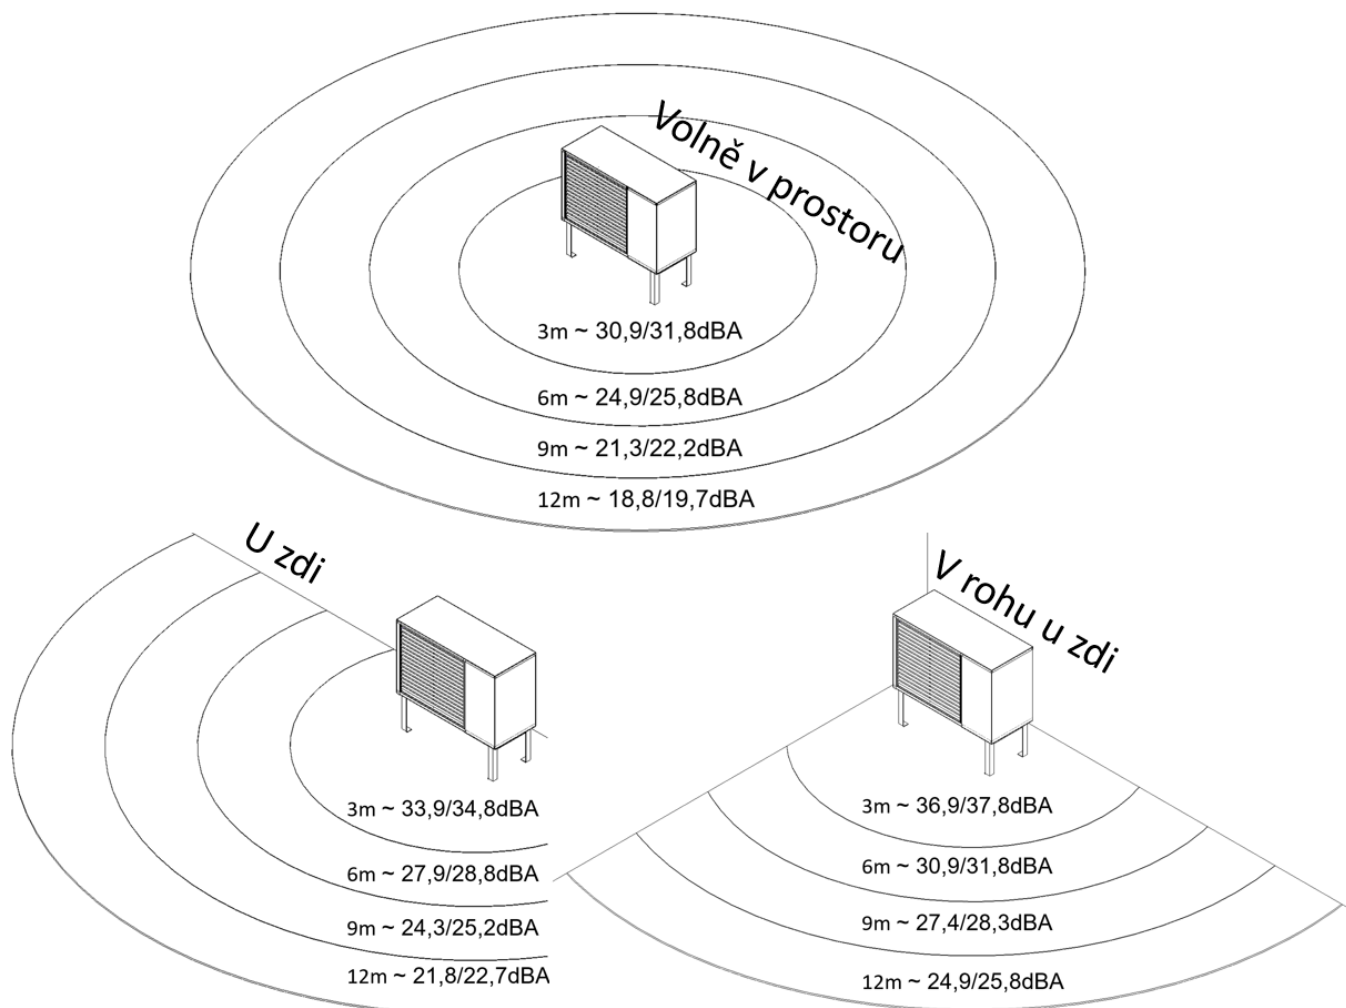

Figure 5: Acoustic pressure
- Respect the noise data, ref. figure 5